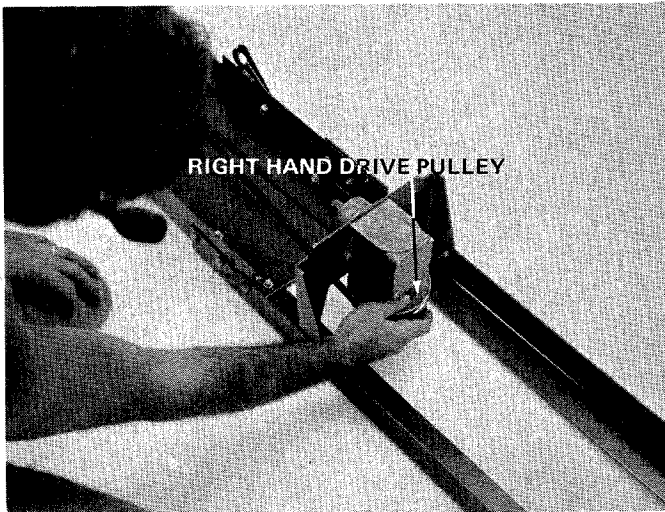

FIGURE 15
- ← 12. Twist V-belt 90° to the left and feed on to right hand drive pulley. See figure 15.